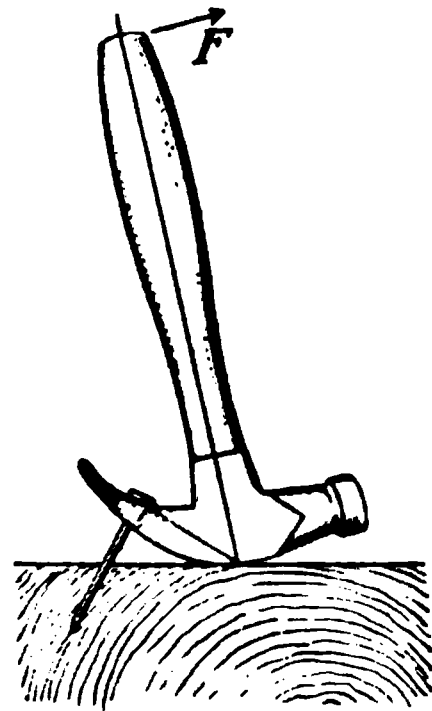

FIG. 89.—The hammer is a bent lever. What is its mechanical advantage?
13. The handle of a hammer is 12 in. long and the claw that is used in drawing a nail is 2.5 in. long. (See Fig. 89.) A force of 25 lbs. is required to draw the nail. What is the resistance of the nail?